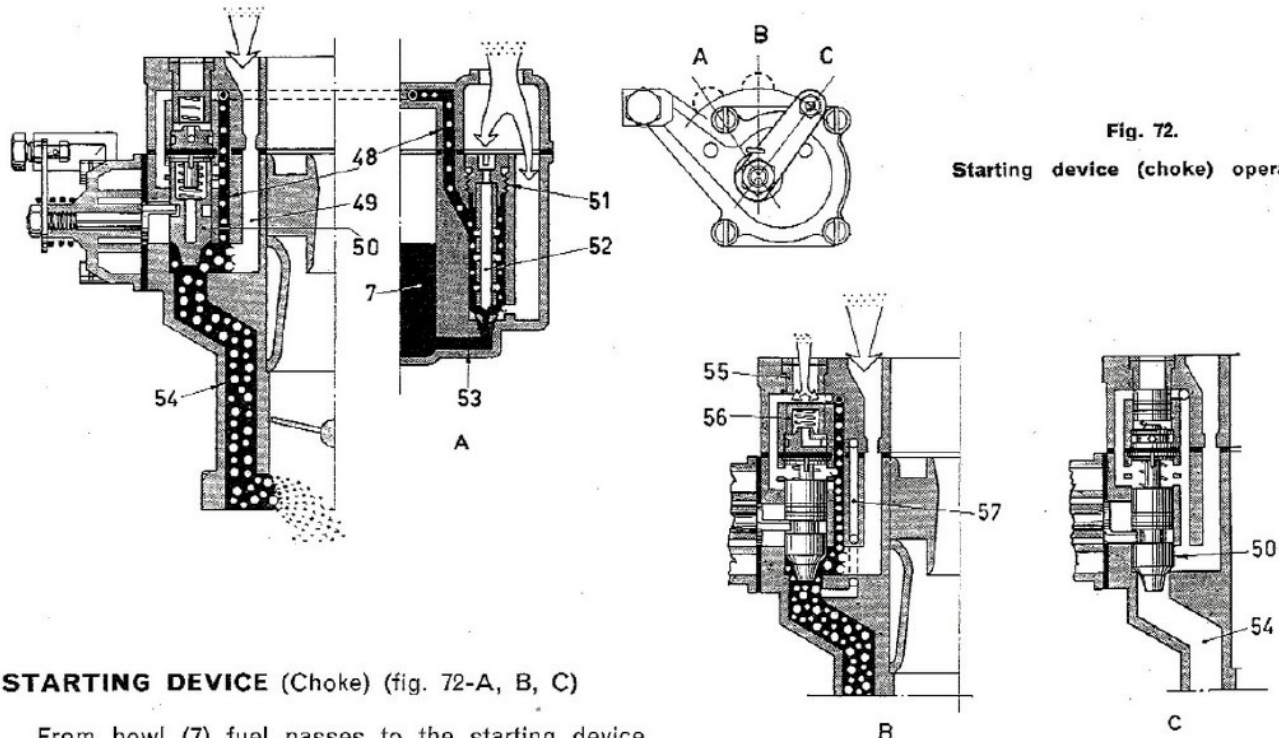

Fig. 72.
**STARTING DEVICE (Choke) (fig. 72-A, B, C)**
From bowl (7) fuel passes to the starting device through duct (53) and starting jet (52). Emulsified with the air coming from the carburetor air intake and calibrated by the air corrector jet (51), it reaches the chamber of plunger (50) — through duct (48) — where it is mixed with air from duct (49): this mixture is then aspirated through duct (54) so permitting ready starting of the engine - Diagram A, fig. 72.
downstream of the throttles increases; through duct (57, fig. 72) this vacuum causes the opening of valve (56). The air sucked in through bush orifice (55) then leans the mixture in duct (48) coming from starting jet (52).
On starting, the device distributes a slightly rich mixture in sufficient quantity to provide normal cold engine running - Diagram B, fig. 72.
**Cold starts:** insert the device fully (position A, fig. 72): once engine is running properly, set progressively back to rest position.
With the starting device disconnected, plunger (50) blanks duct (54) thus stopping the flow of mixture - Diagram C, fig. 72.
**Half-warm starts.** A partial insertion of the device will suffice (position B, fig. 72).
ture to ensure smooth engine operation (position B, fig. 72).
- **Normal operation.** As soon as the engine reaches a temperature sufficient for normal operation, cut out the starting device (position C, fig. 72).